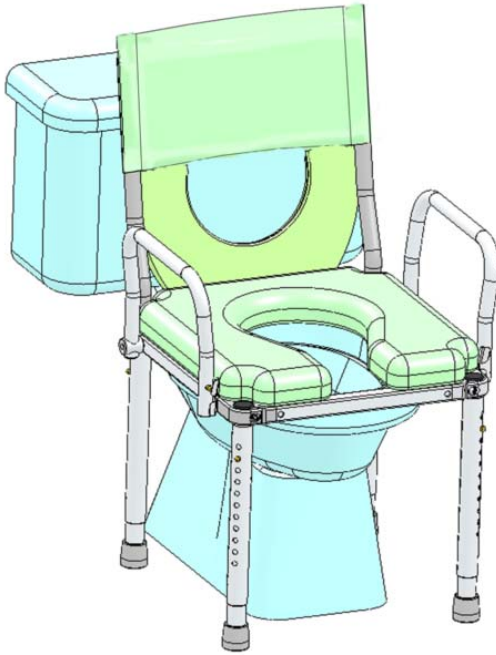

Figure 11
**B Commode Chair:** Position the multiCHAIR over the toilet, so that the center of the commode opening is directly above the center of the toilet bowl. Adjust the height of the multiCHAIR accordingly by setting the position of the brass buttons on the four inner legs to the various adjustment holes on the outer legs (Refer to Figure 11).